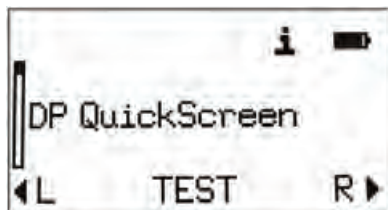

Figure 13
2. From the main menu (Figure 13), select the desired protocol or series using the up or down arrows on the navigator.
A flash screen (Figure 14) showing the firmware version (first line), serial number (second line), and date set in the instrument (third line) will illuminate briefly before showing the main display (Figure 13).